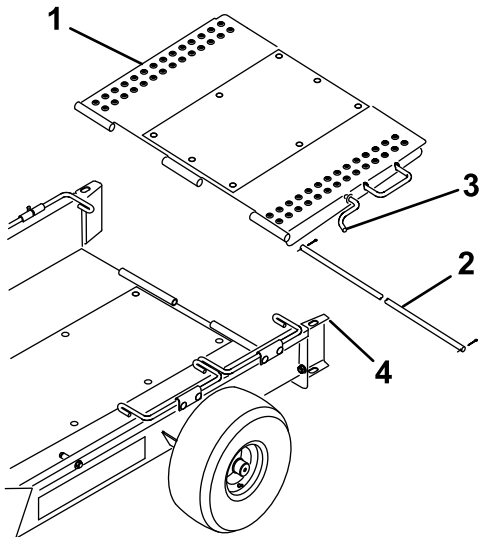

Figure 3
- Mount the trailer ramp to the rear of the trailer bed with the hinge rod and 2 cotter pins (Figure 3).
- Pivot the trailer ramp upward and hook the ramp latch into the hole in the top of the wheel guide (Figure 3).
8. Pivot the trailer ramp upward and hook the ramp latch into the hole in the top of the wheel guide (Figure 3).